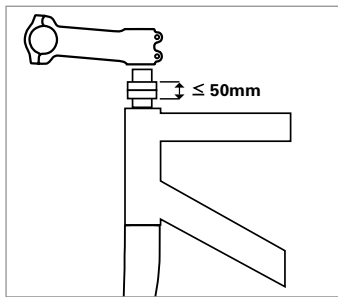

Figure 4
- The spacer stack between the headset and stem must not exceed 50mm (fig. 4).